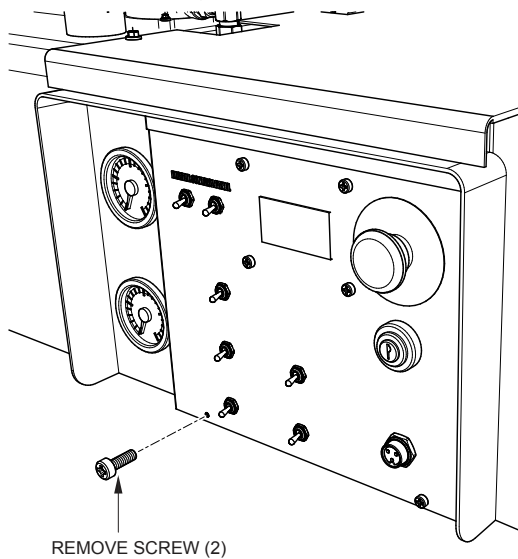

Figure 4. Digital Control Box Front Panel Removal
1. Remove the screws (2) that secure the Digital Control Box front panel (Figure 4) to the pump.